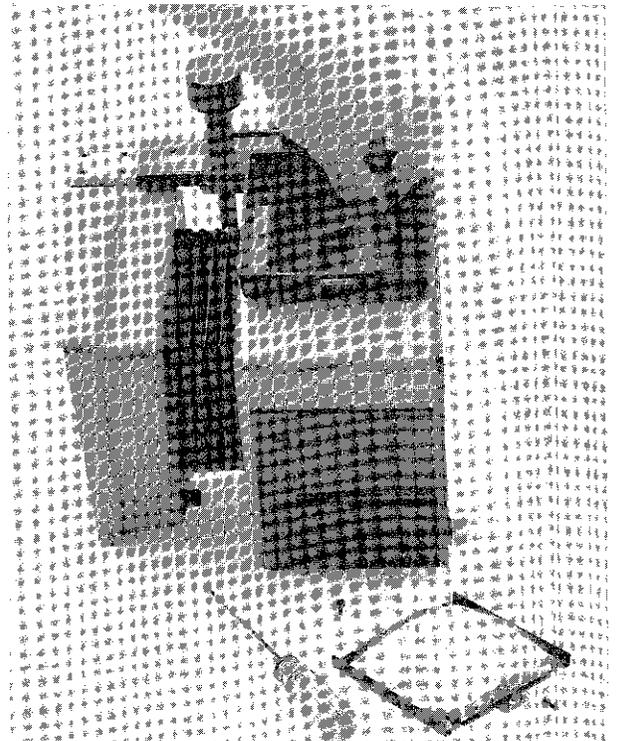

Fig. 6
5. Grasp the mask by the attached knob. (see Fig. 6). Place the selected mask so that one edge seats against the two locating posts opposite the nylon hold-in clip.